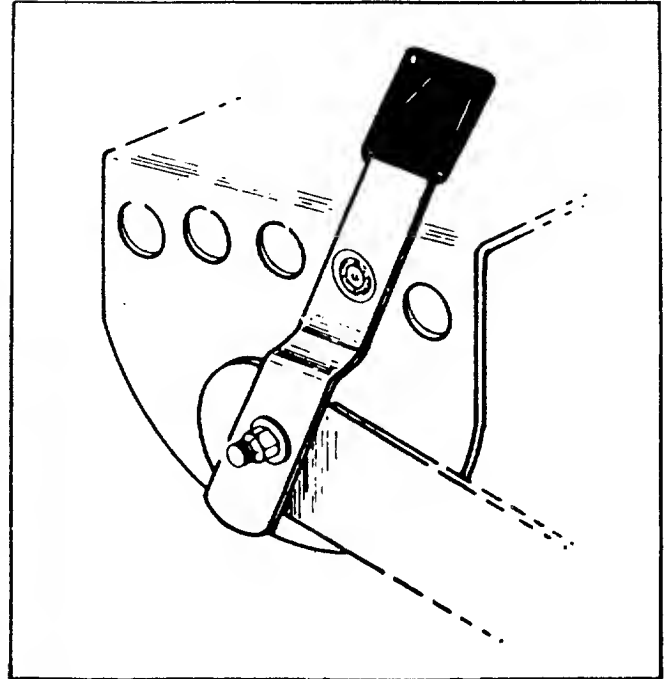

FIGURE 18.
**Wheel Height Adjuster.** See figure 18. Move the lever towards the wheel and set it in the desired cutting height.
To set the cutting deck in the full float position, set the wheel height adjusters in the desired cutting height as indicated in figure 18. Set height of cut stop all the way forward.